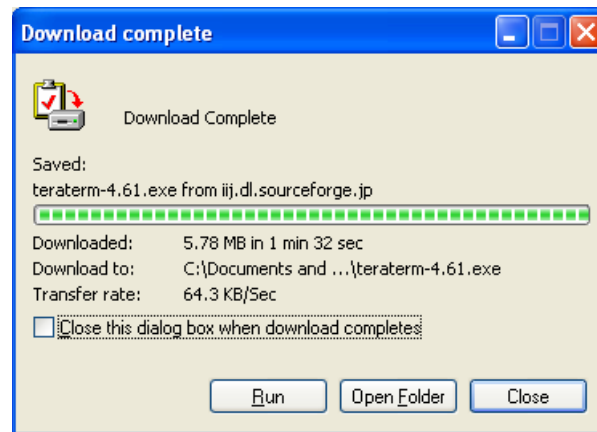

Figure 6-11: File Download Complete
5. When the file download is complete, click **Run** (Figure 6-11).